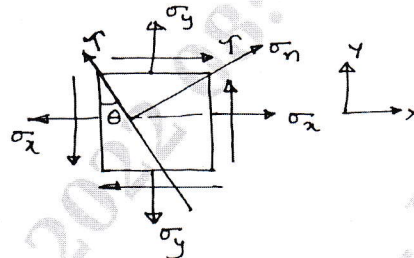

Fig. Q3(a)
- 3 a. Derive the expression for normal stress and tangential stress on a plane inclined at θ° to the vertical axis in a biaxial stress system with shear stress as shown in Fig.Q3(a). Also find Resultant stress and Angle of Obliquity. (10 Marks)
- b. The state of stress at a point in a strained material as shown in Fig. Q3(b). Determine